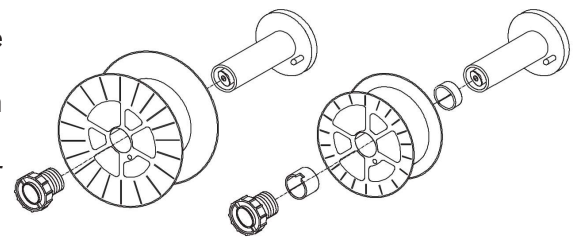

Figure 2
- Mount the spacer as shown in the Figure 2 if required for the spool to be installed.